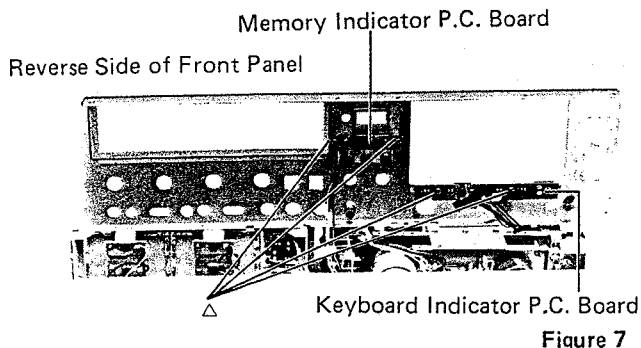

Figure 7
- (5) After removing the front panel, remove four screws marked "△" as shown in Figure 7, and remove memory indicator and keyboard indicator P.C. Board.